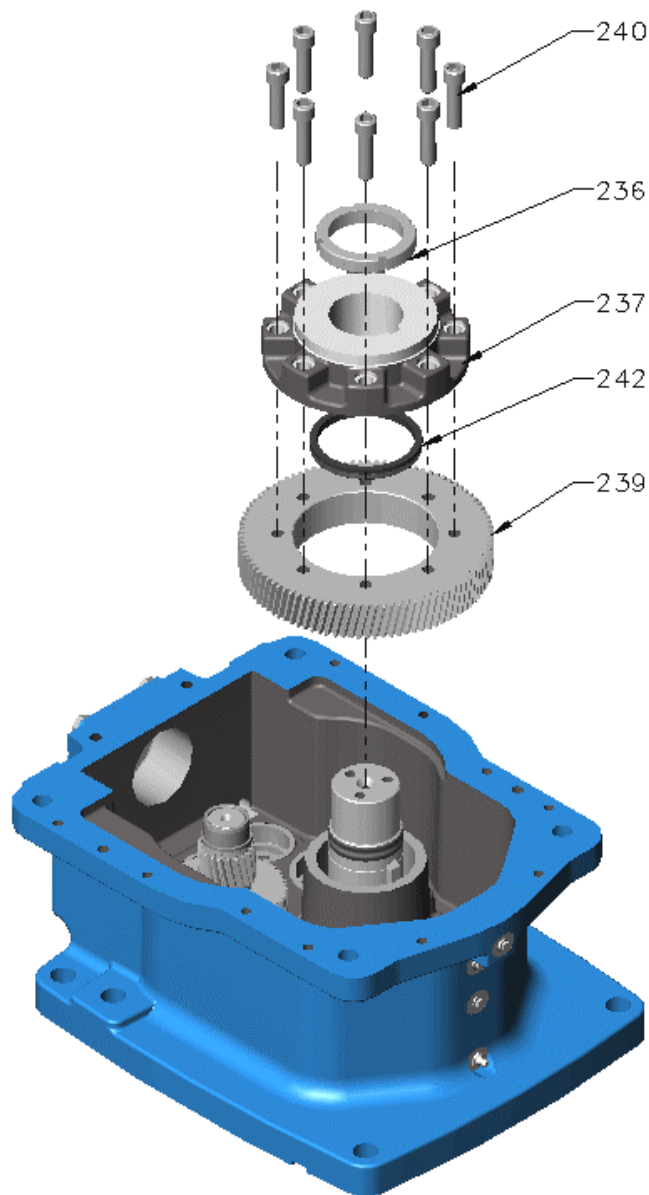

Figure 15 – Output Gear and Gear Flange
- H. Install V-ring **[242]** on the gear flange **[237]** and heat flange to 120° C (248° F) (refer Figure 15).
- I. At output shaft **[244]**, install following items (refer Figure 15):
- J. Lift gear **[239]** to engage tenon on the flange and install bolts **[240]** (refer Figure 15). Make sure the gear is sitting flat on the gear flange. Use feeler gage to check this.
- K. Torque-tighten bolts **[240]** to value given in Table 1 (refer Figure 15).